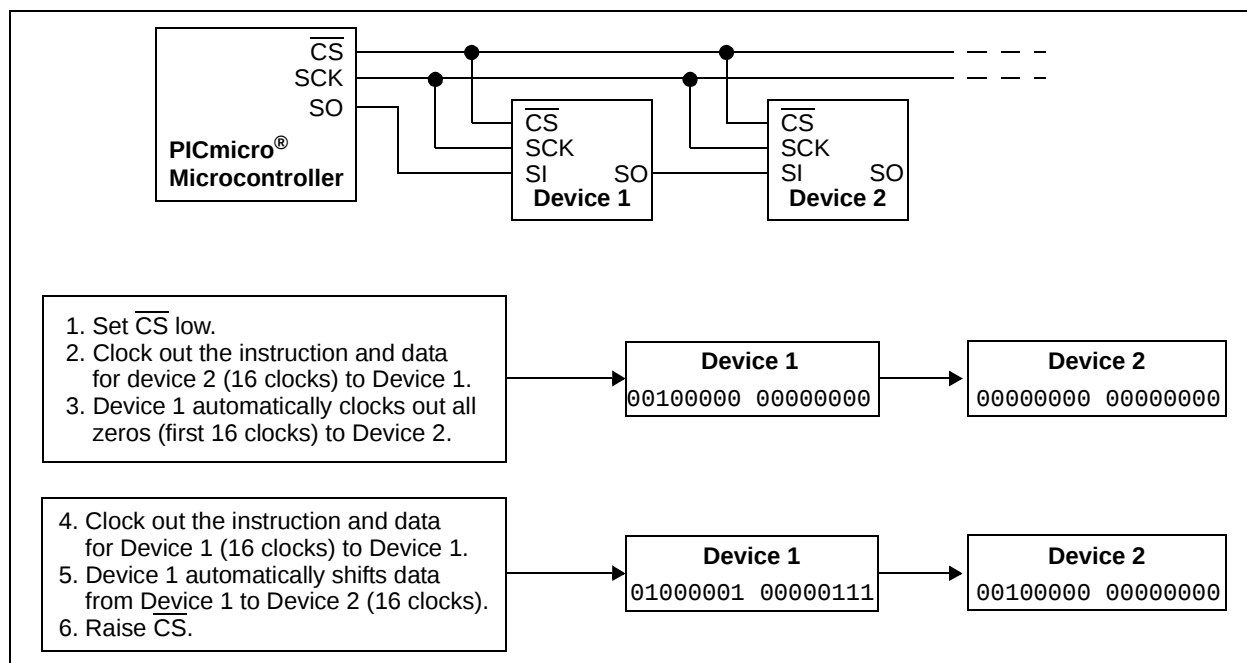
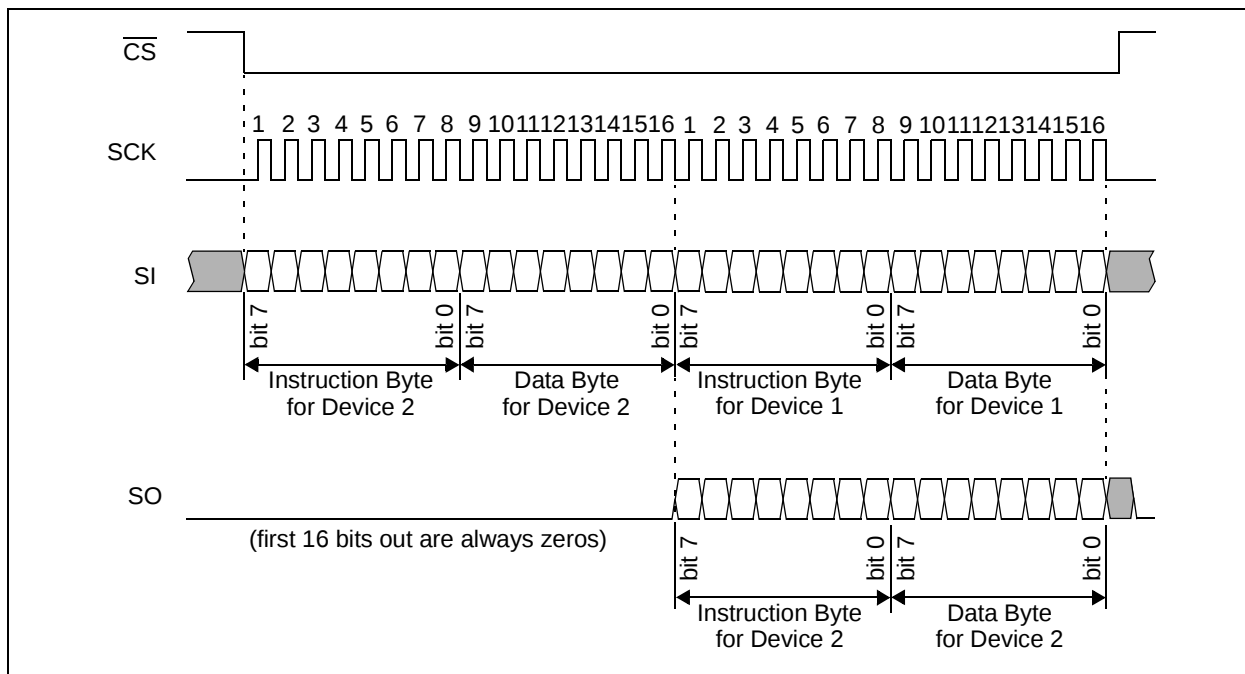
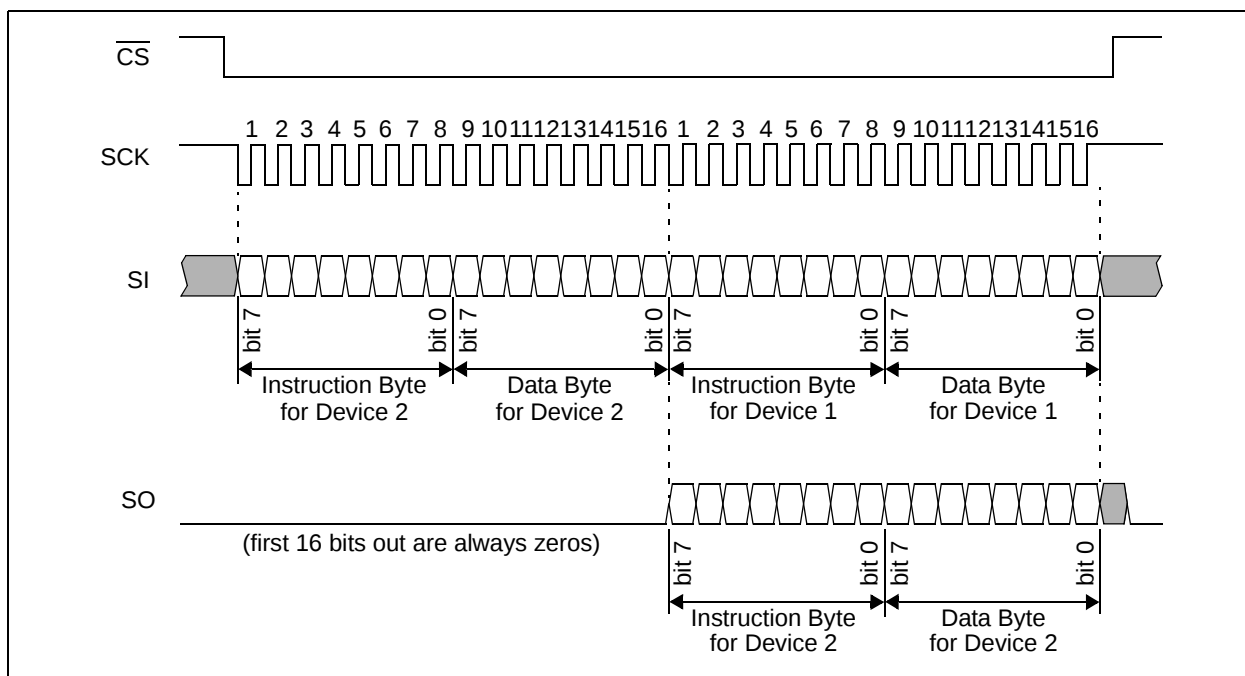

FIGURE 5-3: Daisy-Chain Configuration.
FIGURE 5-4: Serial Bus Sequence for Daisy-Chain Configuration; SPI™ 0,0 Mode.
FIGURE 5-5: Serial Bus Sequence for Daisy-Chain Configuration; SPI™ 1,1 Mode.
Multiple MCP6S91/2/3 devices can be connected in a daisy-chain configuration by connecting the SO pin from one device to the SI pin on the next device and using common SCK and $\overline{CS}$ lines (Figure 5-3). This approach reduces PCB layout complexity and uses fewer PICmicro® microcontroller I/O pins.
The example in Figure 5-3 shows a daisy-chain configuration with two devices, although any number of devices can be configured this way. The MCP6S91 and MCP6S92 can only be used at the far end of the daisy-chain, because they do not have a serial data out (SO) pin. As shown in Figure 5-4 and Figure 5-5, both SI and SO data are sent in 16-bit (2 byte) words. These devices abort any command that is not a multiple of 16 bits.